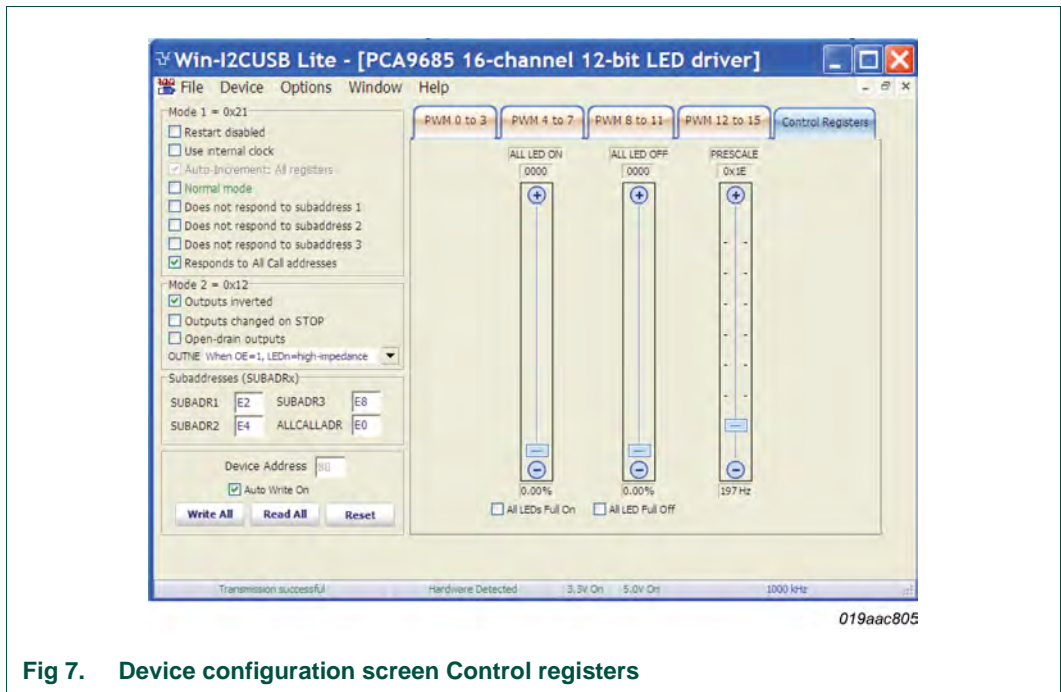

Fig 7. Device configuration screen Control registers
- 'Control Registers' all LED[0:15] brightness control and Prescale for all LEDs output frequency as shown in Figure 7
1. Click the 'Control Registers' configuration screen for all LED[0:15] brightness control and Prescale for LEDs output frequency as shown in Figure 7.
2. In Figure 7, uncheck the 'All LED Full Off' box (lower bottom), adjust both 'All LED ON' and 'All LED OFF' bar for all LEDs dimming/brightness effect.